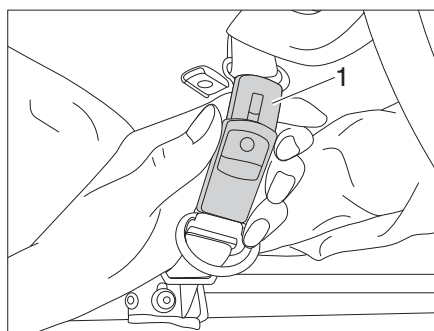

Fig. 43 Open the securing belt
- Open the securing belts (Fig. 43,1).